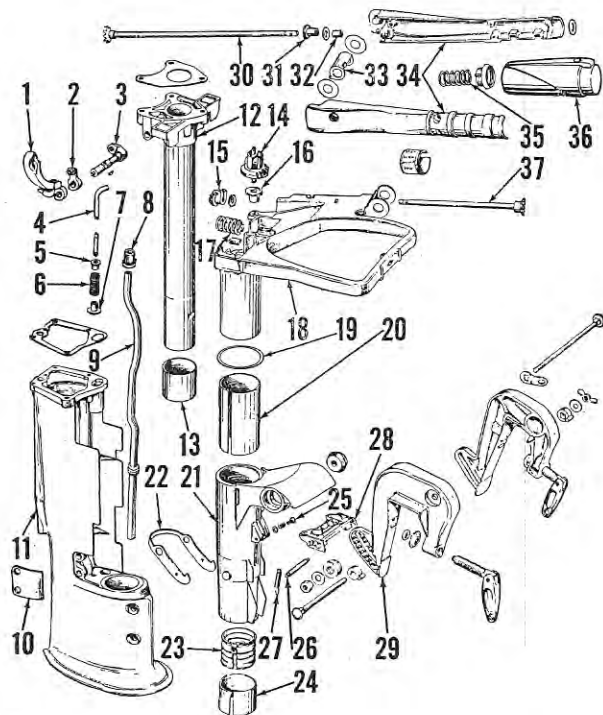

Fig. G66—Exploded view of drive shaft housing, exhaust housing and stern bracket used on models 12D11, 12S12, 12S13, 12-S14 and 12S15.
lubricant. Look for water leaks if the gearcase requires an abnormal amount of lubricant. Use appropriate exploded views (Fig. G66 through Fig. G69) as a guide when overhauling the lower unit, together with the special precautions listed below. All
To separate gear case from the exhaust and drive shaft housing, it is necessary to remove cover (10—Fig. G66, Fig. G67 or Fig. G68), then loosen the shift rod clamp screw.
The shifting linkage must be adjusted to provide full engagement of the shifter collar with the forward and reverse gears. To make the adjustment on models 12D11, 12S12, 12S13, 12S14 or 12S15, proceed as follows: With the motor not running, set the shift lever at "Neutral" and the speed control at "Slow." Rotate the propeller by hand while moving the shift lever (1—Fig. G66) slowly in each direction to the point where lower unit clutch dog contacts the gear projections. Mark shift lever location on shroud at point of contact. Travel should be same distance each side of neutral position to point of contact. If it is not, loosen shaft clamping screw in shift lever (1), loosen adjusting screw securing shift lever to adjusting lever (2), and move adjusting lever (2) and shaft (3) a slight amount on shift lever (1) until travel is equalized. On these models the "Lockout" which prevents speed control grip from being advanced to "Fast" position when shift lever is in neutral can be adjusted by loosening the two shaft clamping screws and moving levers (1 & 2) in or out on shifter shaft (3). If the screw which clamps these two levers together is not loosened, shift adjustment will not be changed.
**STEERING TENSION.** Steering tension can be adjusted by turning adjusting screw (25—Fig. G66, 41—Fig. G67 or 30—Fig. G68) in or out until motor is easy to steer, but will maintain a set course.